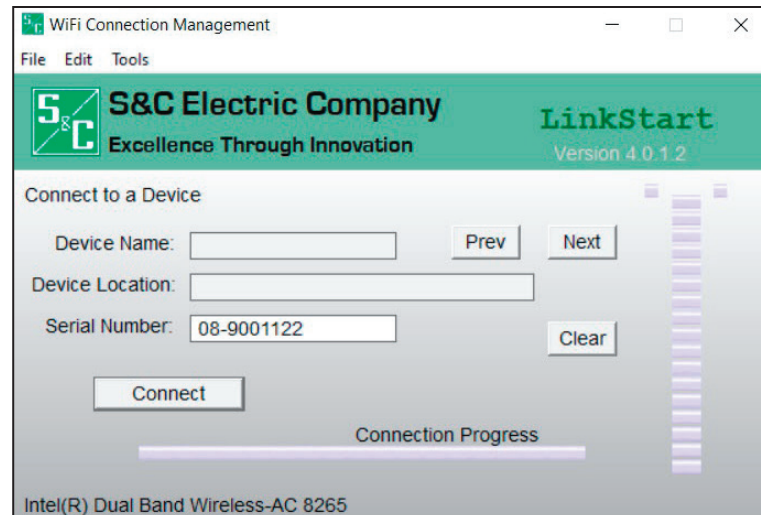

Figure 1. The LinkStart *Main* screen.
STEP 1. In the Windows® 10 **Start** menu select *Start>Programs>S&C Electric>LinkStart>LinkStart V4*. The *Wi-Fi Connection Management* screen will open. See Figure 1.
STEP 2. Enter the serial number of the 6800 Series control and click on the **Connect** button. See Figure 1. The **Connect** button changes to the **Cancel** button, and connection progress is shown on the connection status bar.